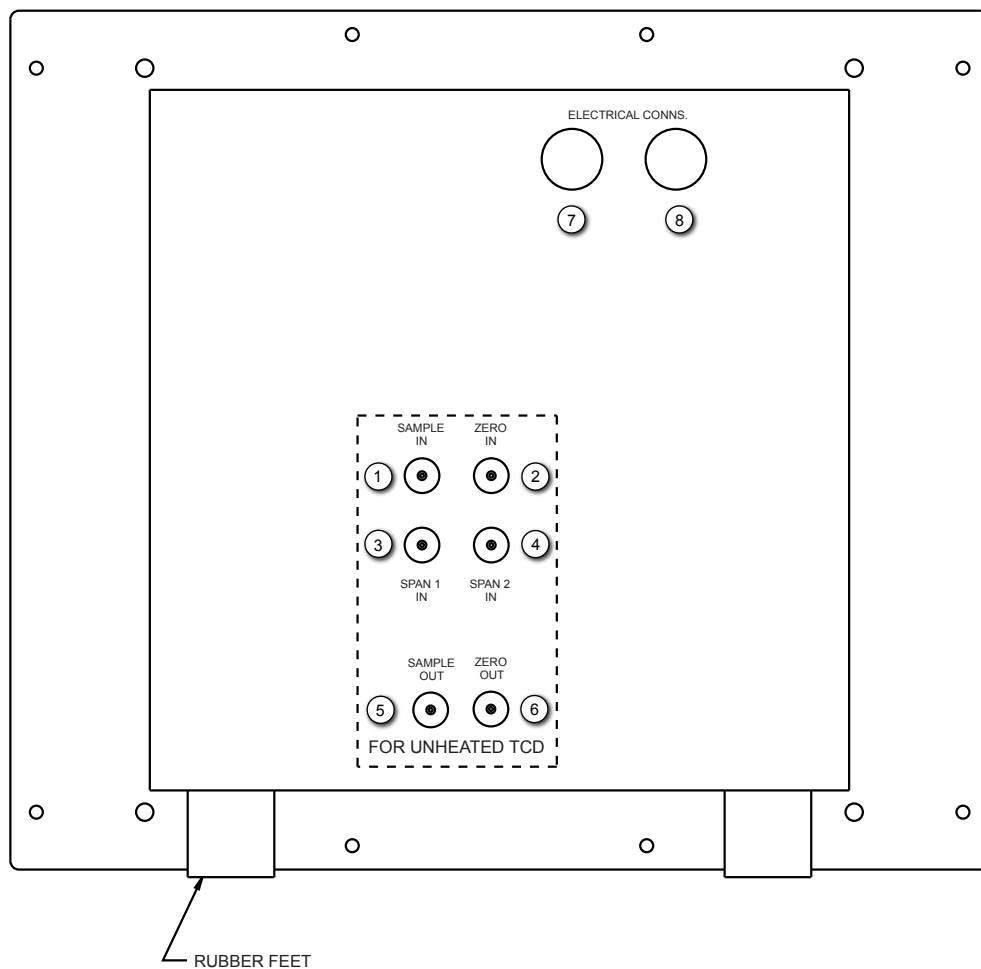

Figure 5-2 Back Panel - Unheated TCD
5.2.1 For UNHEATED TCD (Figure 5-2)